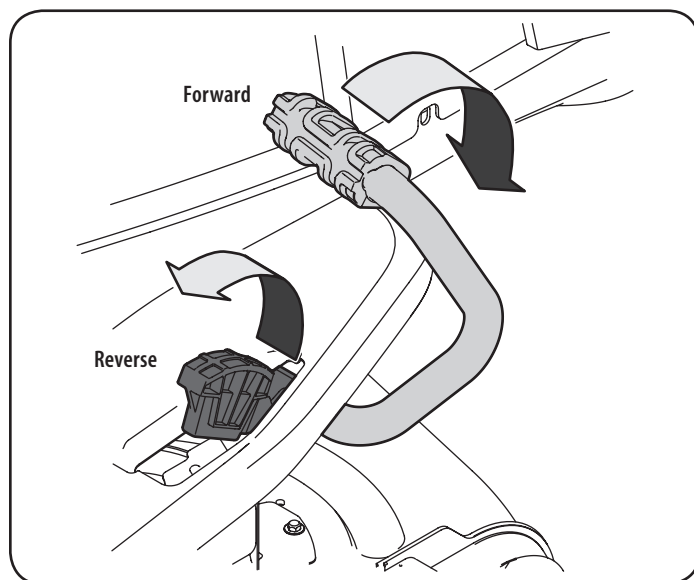

Figure 12
2. To travel FORWARD, slowly press the forward drive pedal forward until the desired speed is achieved. See Figure 12.
3. To travel in REVERSE, check that the area behind is clear then slowly depress the reverse drive pedal until the desired speed is achieved. See Figure 12.